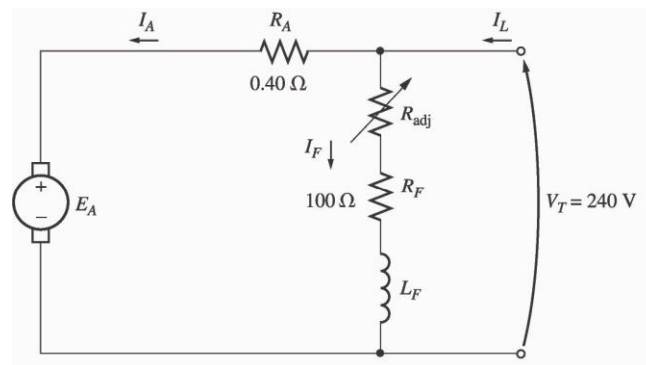

Figure 3.2 Motor equivalent circuit
- (b) If the adjustable resistor,  $R_{adj}$  for circuit in Figure 3.2 is adjusted to  $175\Omega$ , what is the rotational speed of the motor at no-load condition if the magnetization curve is as in Figure 3.3?